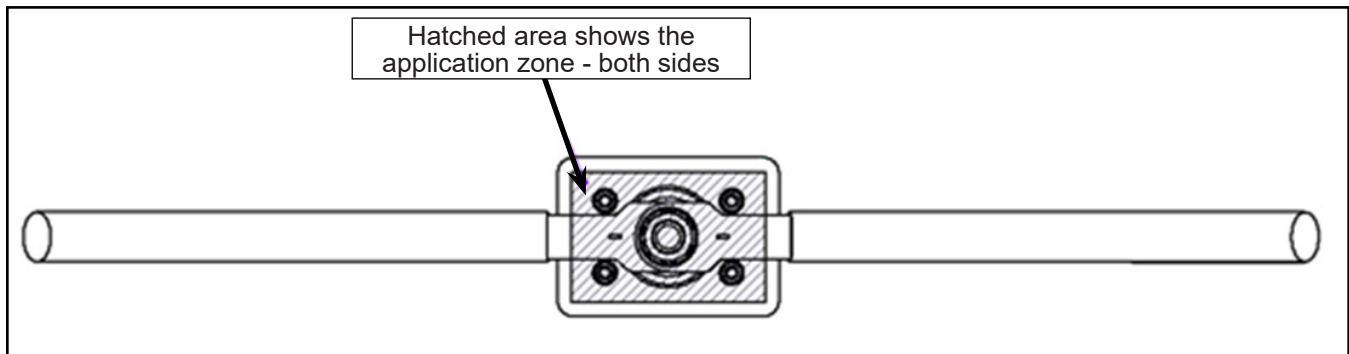

Figure 10 - Junction Block Assembly Showing Corrosion Preventative Product Application Area on Both Sides
- 2.3. Vaporize the NPCHM00023 cleaner on the surfaces to be covered (see Figure 10), and with a dry cloth clean the surface to remove any unwanted particle and/or grease deposits. Allow the product to evaporate completely. The use of a nylon brush is permitted to clean the surfaces.
- 2.4. After the surface cleaning, corrosion preventative product **MUST** be re-applied on both sides of the junction block (see Figure 10).